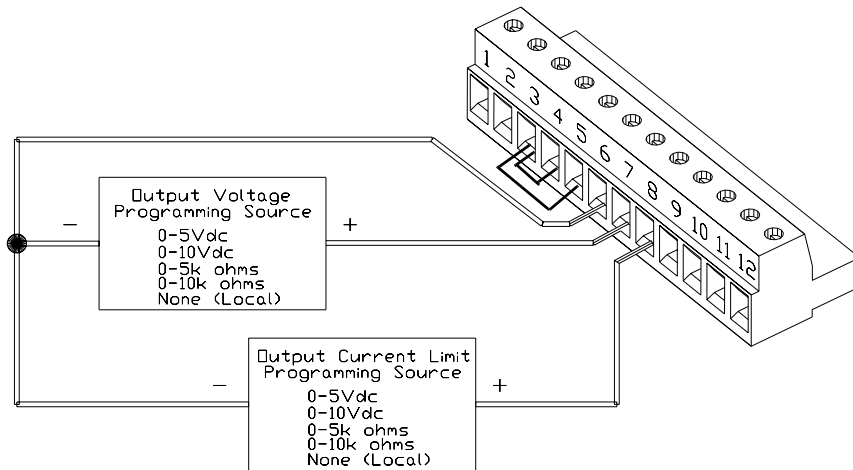

Figure 4.1 Connecting Programming Sources to J2 Connector
4. Connect the programming source(s) to the rear panel J2 connector as shown in Figure 4.1, observing the correct polarity for voltage sources.